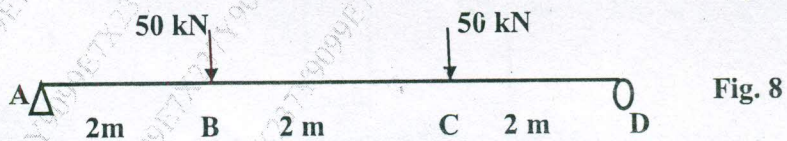

Fig. 8
- (b) For the beam in fig. 8, draw SFD & BMD. If C/S is (80 mm wide x 120 mm deep), find the maximum bending stress. 08